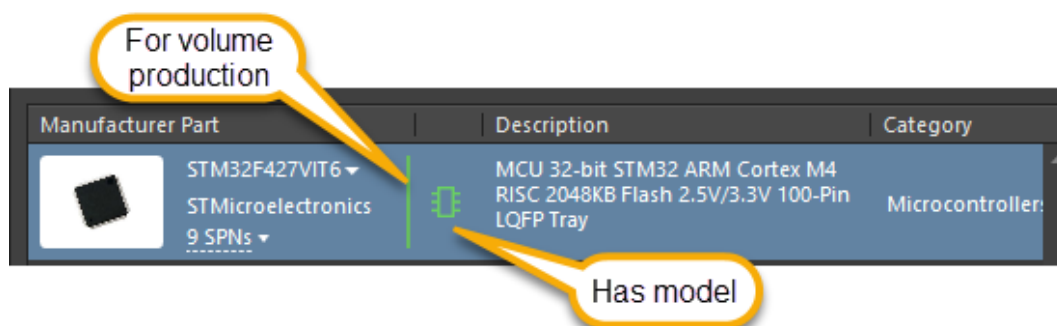

Figure 15. Example for a selected solution
34. Next, you will add a solution for U2, as shown in Figure 15.
- Select one of the solutions: U2 has just 1 solution that is for Volume Production and has a Footprint / Symbol. See Figure 15 as an example.